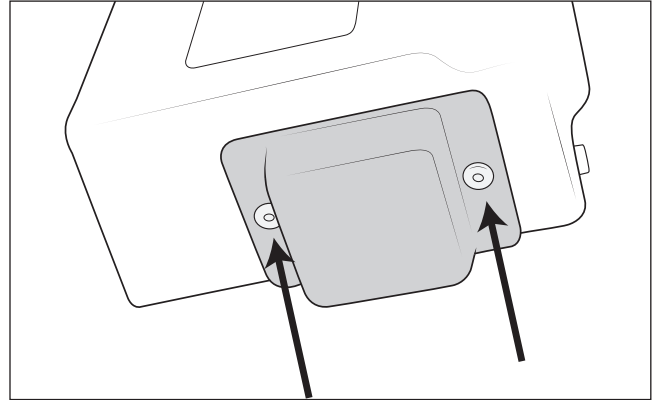

Figure 18
2. Remove the plastic rivets holding the small box to the side of the solenoid pack (fig. 18).